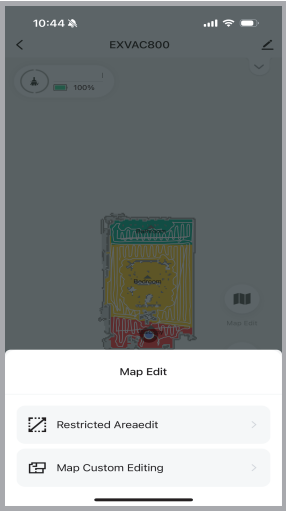
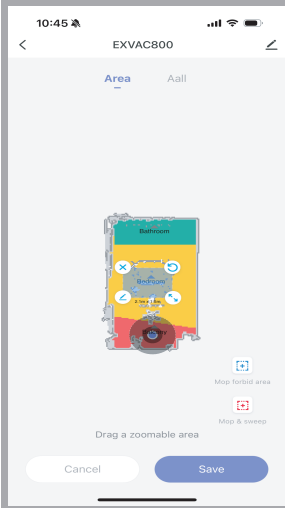
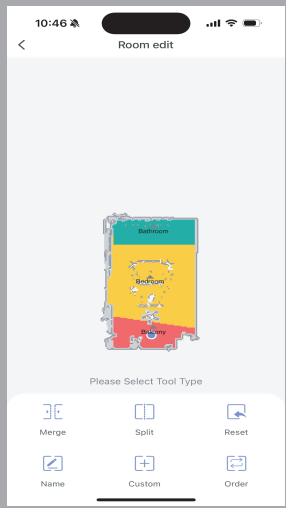

Fig.14
Fig.15
Fig.17
D). Map Edit: click the icon  to set the restricted area (Fig.14, Fig. 15, fFig.16: forbidden area, mop & sweep area, virtual wall), and edit room (Fig.17: merge rooms, split rooms, name rooms,etc.).